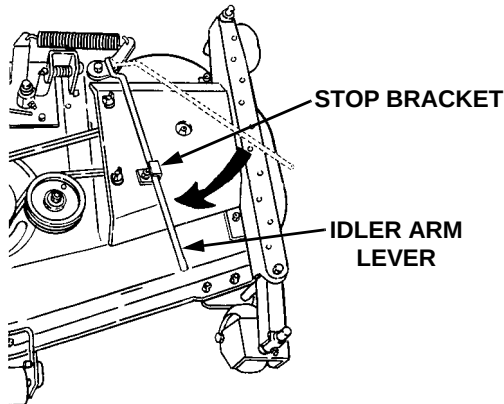

Figure 45
17. While holding the belt in position, rotate the deck idler arm lever into its stop bracket to tension the PTO belt (Refer to Figure 45). Make certain the PTO belt is properly positioned in the PTO clutch pulley and both lower front pulleys. Reposition if necessary.